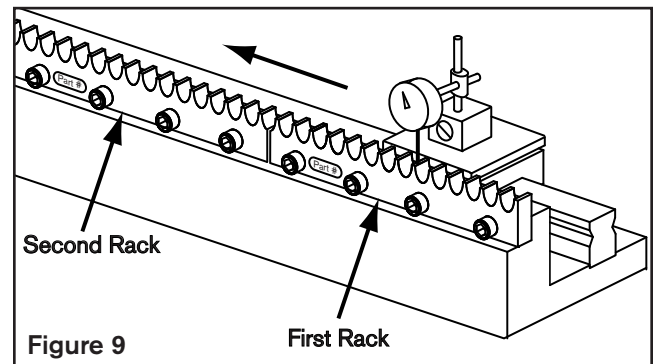

Figure 9
14. Starting on the first rack perform the tooth peak variance check and extend it to the second rack as covered in step 6. If the tooth peak variance on the second rack is out of specifications shim it to match the first rack. Always reference the runout of additional rack sections against the first rack installed at the high point in the run as shown in Figure 9.